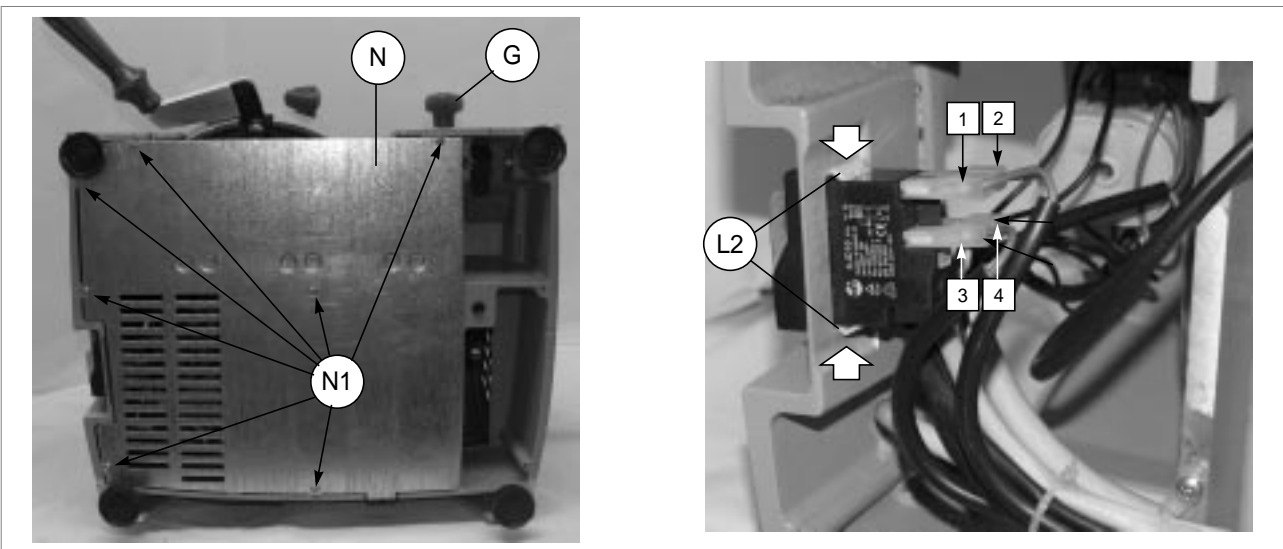

Fig. 30
- 2) Use the lever to raise the carriage and secure by tightening the knob (G) (fig. 30).
- 4) Loosen the 7 screws (N1) and remove the bottom plate (N) (fig. 30).